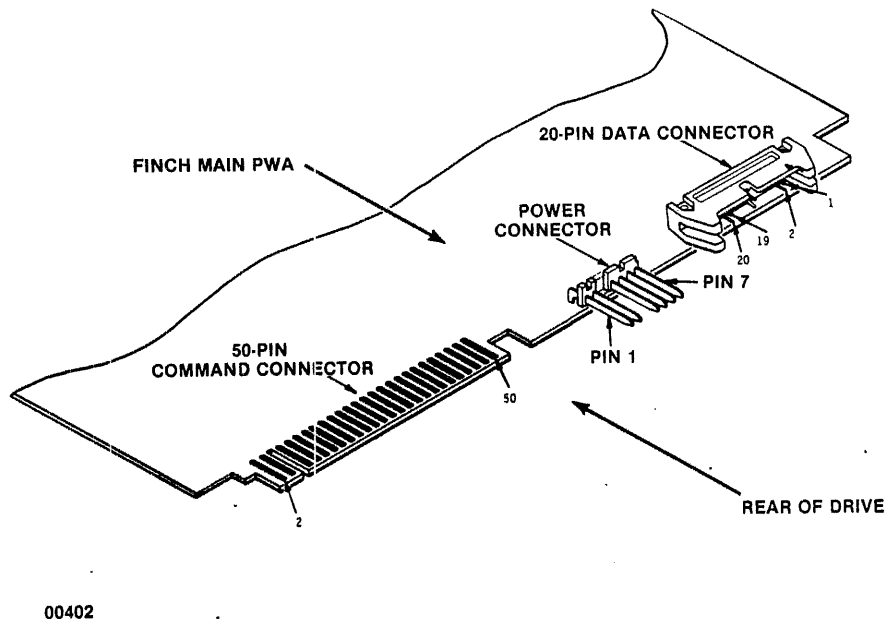

Figure 3-7 FINCH Power and Signal Connector Orientation
3.4.1. Drive Cabling: The required cable connections to the drive are power and signal cables. All input/output signals and power exit at the FINCH Adapter Board. The adapter board attaches to the drive at the command, DC power, and data connectors. Refer to Figure 3-7 for power and signal connector orientation.